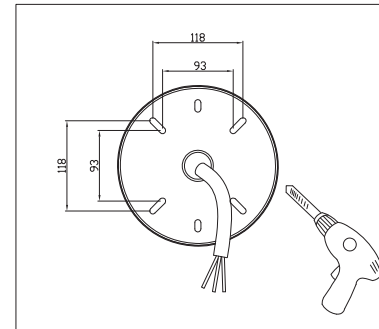

Figure 7
STEP 4: Drill holes on the wall according to the locating plate (Figure 7)